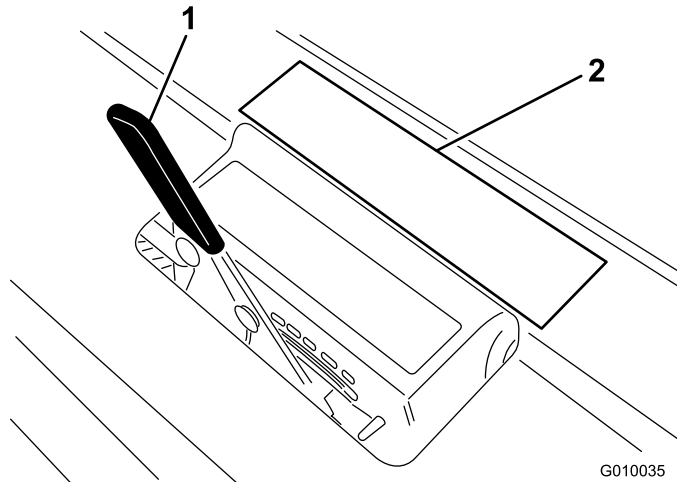

Figure 27
2. Lay the tine on the tine depth decal (Figure 27) with one end lined up with the desired depth of aeration (refer to the tine overlay on the decal).